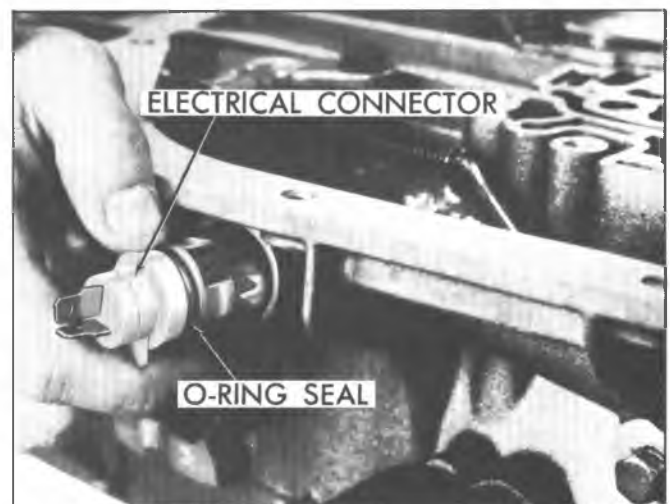

Fig. 15T-Removing Electrical Connector and "O" Ring Seal
6. Withdraw electrical connector and "O" ring seal (fig. 15T).
8. Remove six (6) check balls from cored passages in transmission case.